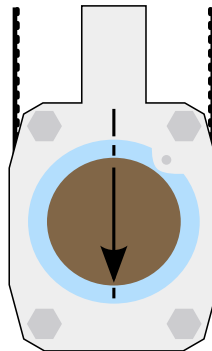

Figure 8: Inserting position for 3D Rotator
Switch **ON** the Kappabridge, run the SAFYR software, push **ACTIVATE** button, choose AMS measuring mode and continue with the activation. Software detects the type of connected rotator automatically. Run **Execute|Calibration** and **Execute|Holder Correction** using 3D rotator. Routines are similar to the using Classical Rotator major difference is in the inserting position of the specimen which is as shown on the Fig. 8.
- For calibration with the **3D rotator** insert the calibration standard as shown on Fig. 8.